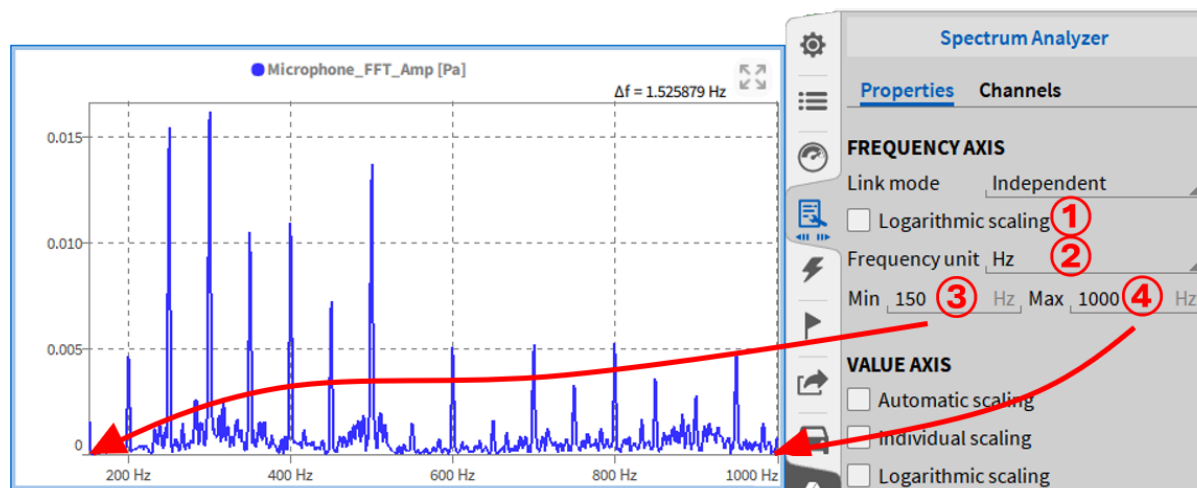

Fig. 8.40: Frequency axis settings
The unit of the X-axis is Hertz [Hz] per default (see ② in Fig. 8.40). The unit can be changed to Cycles Per Minute [CPM] which is defined as [Hz] \* 60. The axis' minimum can be freely defined (see ③ and ④ in Fig. 8.40). The scaling can optionally be set from linear to logarithmic scaling (see ① in Fig. 8.40).
- If frequency domain channels are assigned to the Spectrum Analyzer, the Instrument Properties are reduced to the Frequency axis and Value Axis settings (see Fig. 8.40). For details, refer to Additional instrument properties.